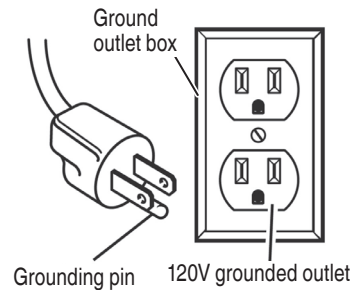

Fig. 1
- This product is for use on a nominal 120-V circuit and has a grounding plug similar to the plug illustrated in Fig. 1. Only connect the product to an outlet having the same configuration as the plug. Do not use an adapter with this product.